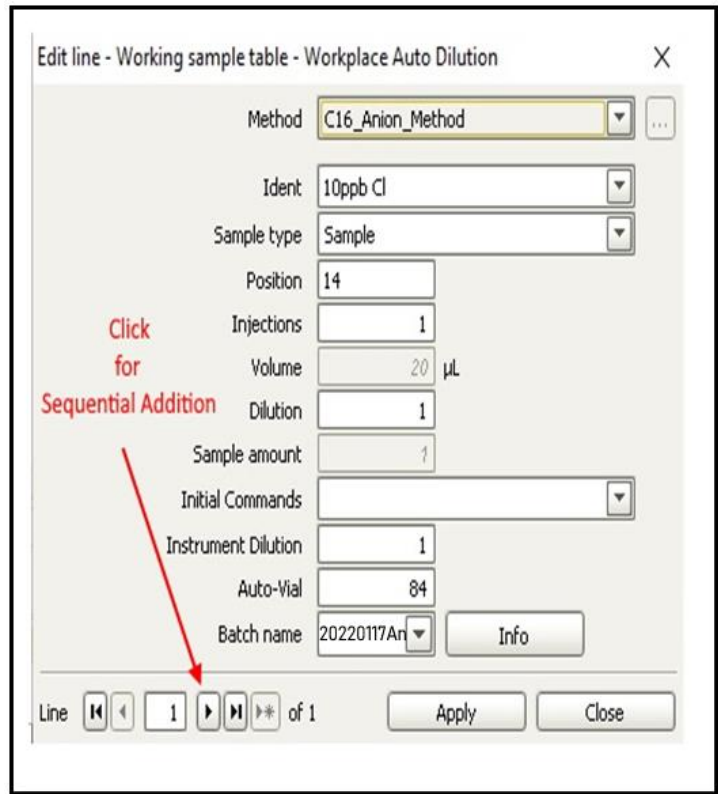

Figure 7
- xii. Batch Name: naming convention= Course/PI_YYYYMMDD_An/Cat (Figure 7)
- xiv. Subsequent samples can be sequentially added (Figure 7); Apply after each addition